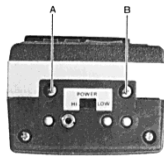

Figure 1
- (1) Remove screws A and B in Fig. 1, using a Phillips screwdriver of the proper size. Carefully remove the back panel of the transceiver.